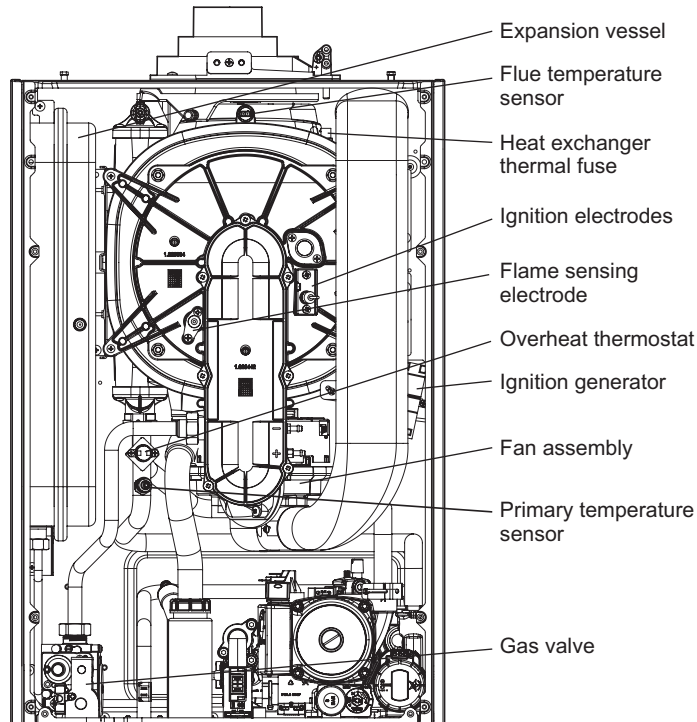

Fig. 23
7.3 ELECTRODES - Fig. 23
7.7 IGNITION GENERATOR - Fig. 23
7.8 OVERHEAT THERMOSTAT - Fig. 23
7.9 FLUE TEMPERATURE SENSOR - Fig. 23
7.10 GAS VALVE - Fig. 23
7.20 PRIMARY HEAT EXCHANGER - Figs. 23 and 26
3. Unplug the connections from the flue temperature sensor and thermal fuse, see Fig. 23.